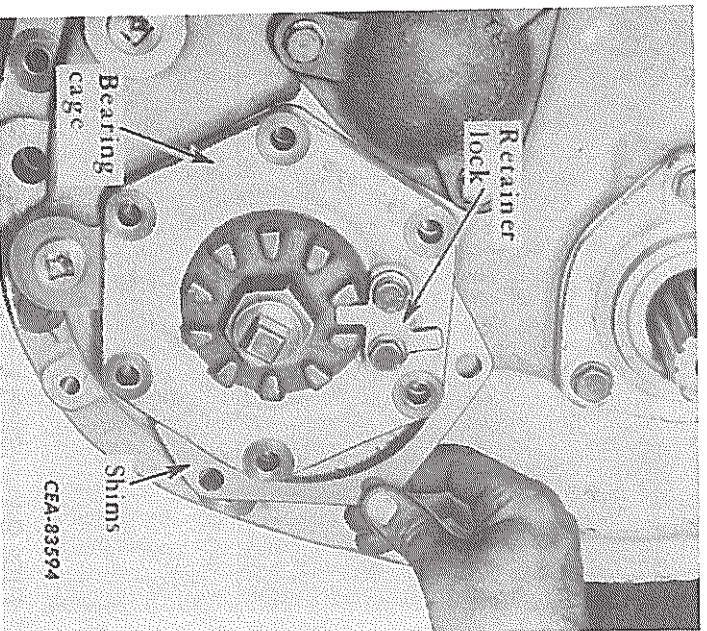

FIG. 89 — Installing the Pinion Shaft Front Bearing Cage Shims
63. Install the retainer lock. Then remove the capscrews securing the bearing cage and slide the split shims into place. The original shim thickness that was removed must be installed (Fig. 89).